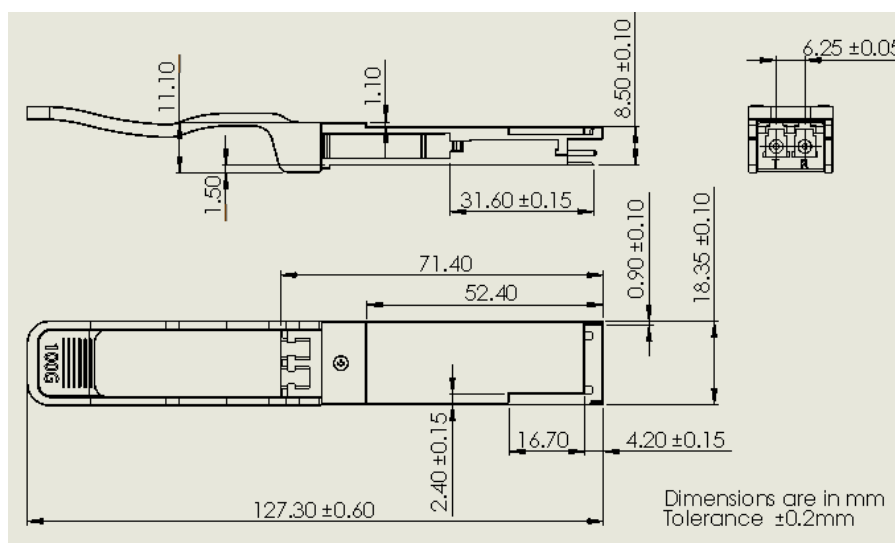

Figure 4. Mechanical Outline
2. VccRx, Vcc1 and VccTx are the receiver and transmitter power suppliers and shall be applied concurrently. Recommended host board power supply filtering is shown in Figure 4 below. Vcc Rx, Vcc1 and Vcc Tx may be internally connected within the QSFP28 transceiver module in any combination. The connector pins are each rated for a maximum current of 1000mA.